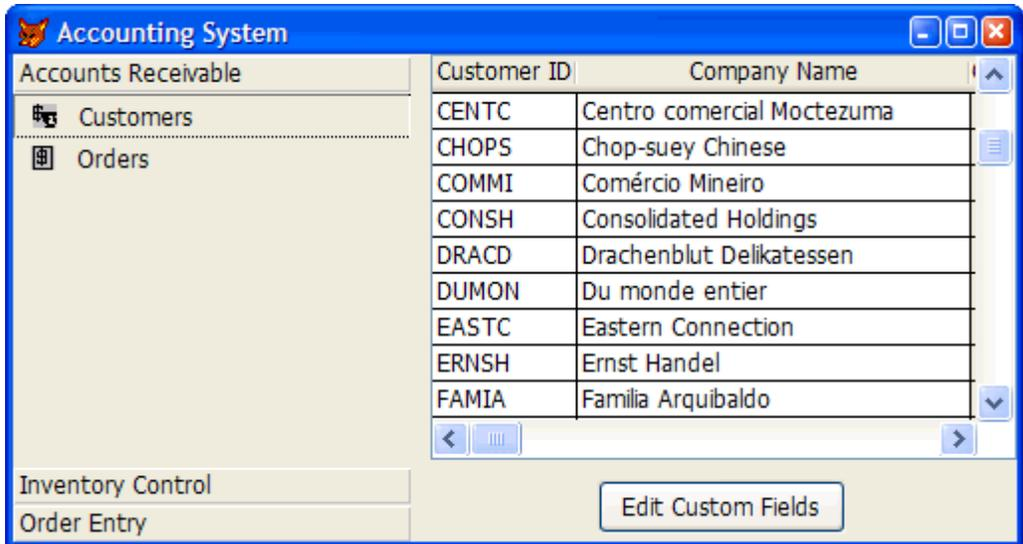

Figure 5. The TestToolbox form shows how to create a form with a toolbox like the VFP Toolbox application or Outlook.
**Figure 5** shows what this form looks like when it runs.